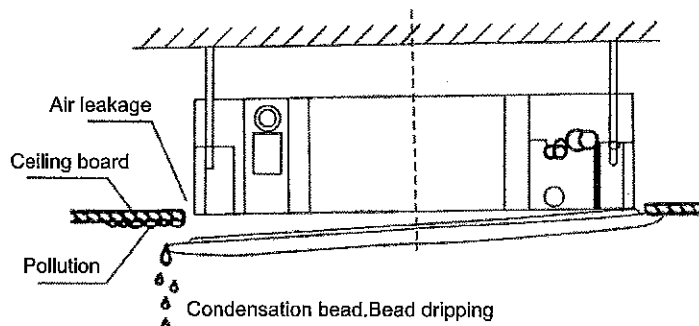

Figure 15
- Inappropriate screw-down of screws may lead to the faults shown in Figure 15;